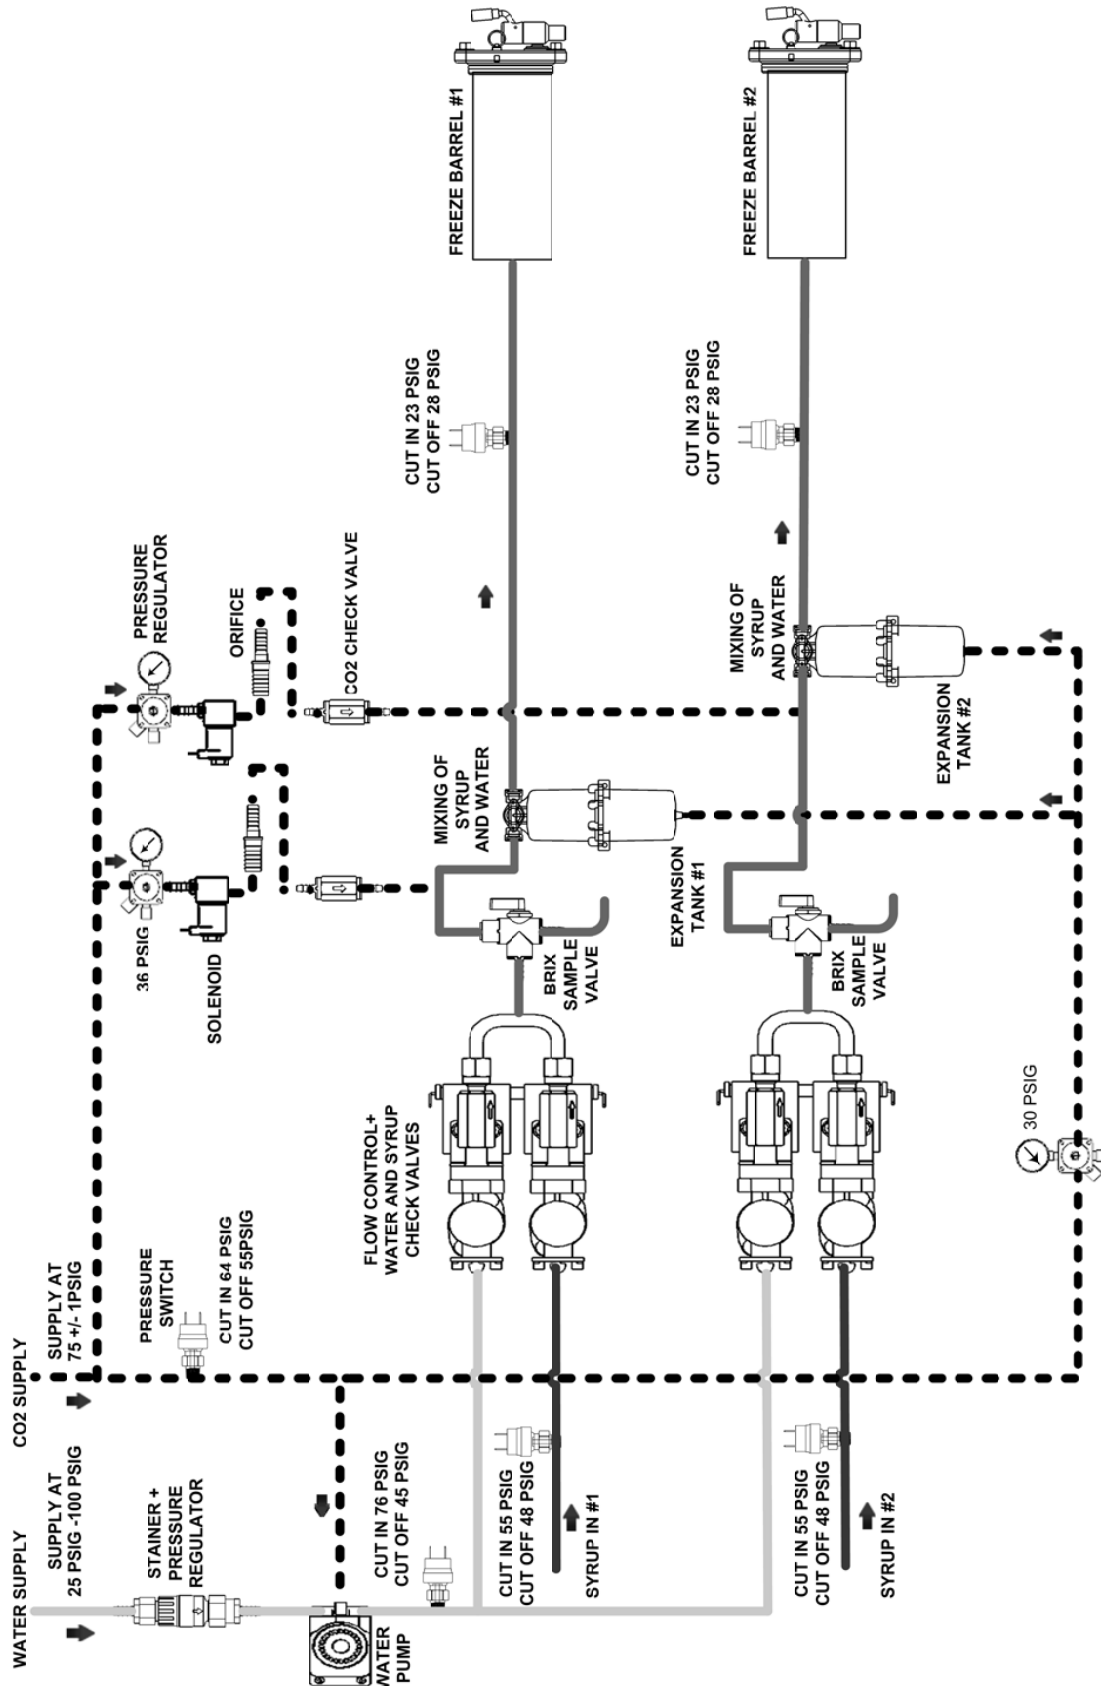

Figure 36. 2-Barrel System Schematic
*An overall schematic of the delivery systems contained in the unit are shown in Figures 36 and 37. The CO₂ system interacts with both the water and syrup systems. It provides pressure and carbonation for the syrup/water product mix.